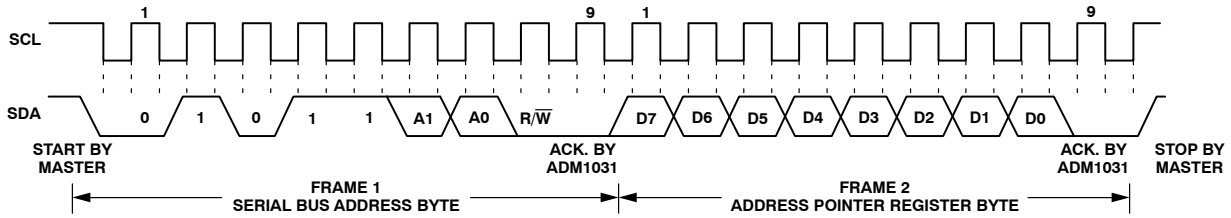
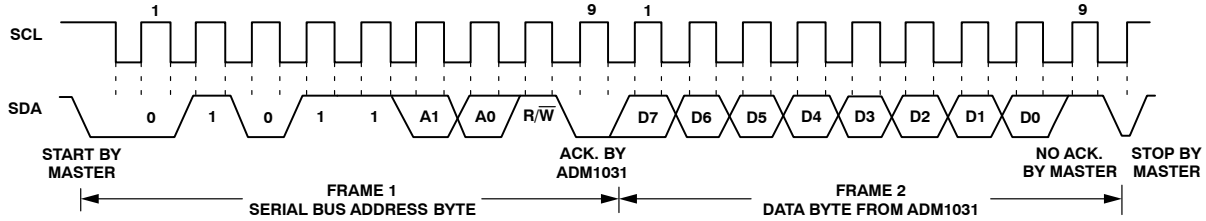

Figure 16. Writing to the Address Pointer Register Only
Figure 17. Reading Data from a Previously Selected Register
- If the ADM1031’s address pointer register value is unknown or not the desired value, it is first necessary to set it to the correct value before data can be read from the desired data register. This is done by performing a write to the ADM1031 as before, but only the data byte containing the register address is sent, as data is not to be written to the register. This is shown in Figure 16. A read operation is then performed consisting of the serial bus address, R/W bit set to 1, followed by the data byte read from the data register. This is shown in Figure 17.
- If the address pointer register is known to be already at the desired address, data can be read from the corresponding data register without first writing to the address pointer register, so Figure 16 can be omitted.
- In Figure 15, Figure 16, and Figure 17, the serial bus address is shown as the default value 01011(A1)(A0), where A1 and A0 are set by the three-state ADD pin.